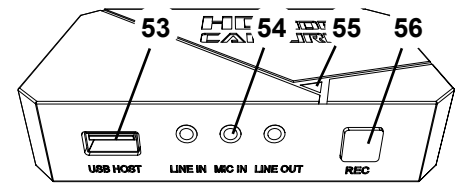

Fig. 35
- ⇒ Press the REC button (56, Fig. 35) on the HDMI-Video-Recorder.
- ◆ The signal LED (55, Fig. 35) turns red.
- ⇒ Plug the microphone cable of the headset (pink plug) into the MIC IN connection (54, Fig. 35) (pink mark).